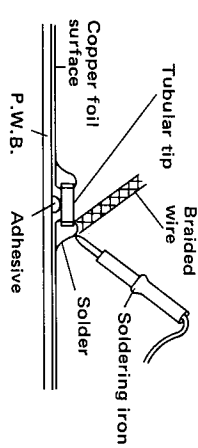

Figure 20-1
- Using a soldering iron, heat the solder at each terminal of the tip to get it absorbed into a braided wire applied thereon. See Fig. 20-1.